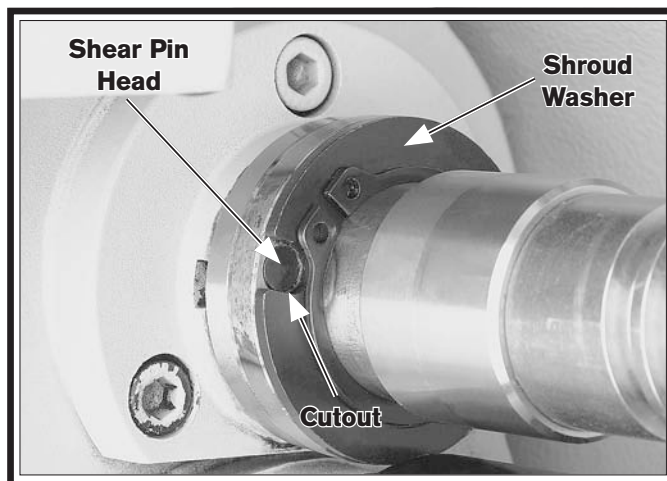

Figure 132. Shroud washer and shear pin alignment.
3. Rotate the shroud washer on the leadscrew (see **Figure 132**) so that the cutout lines up with the shear pin head.